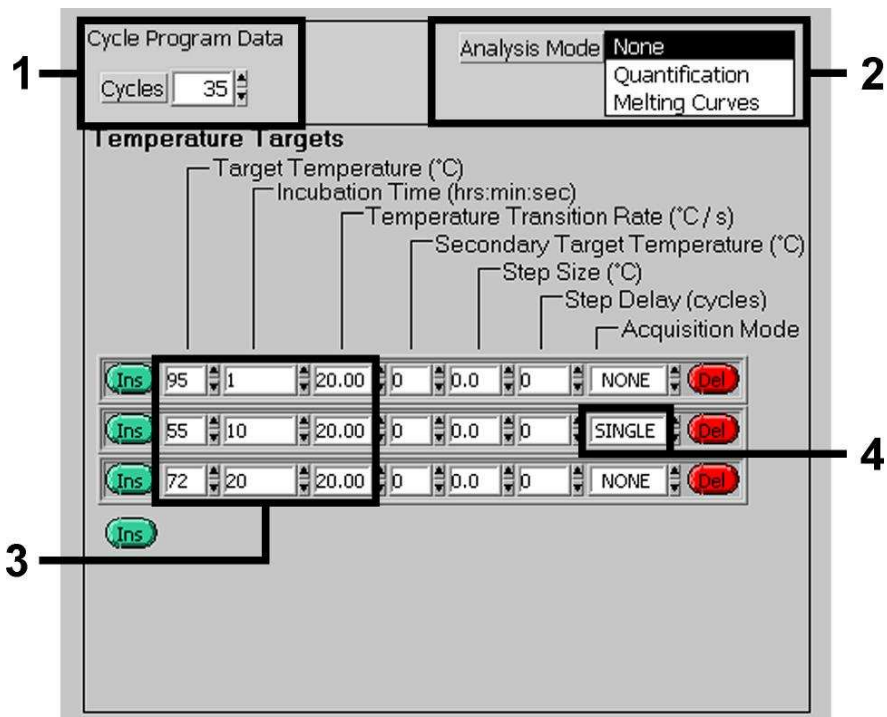

Fig. 4: Amplification of the DNA.
- C. Amplification of the DNA Fig. 4